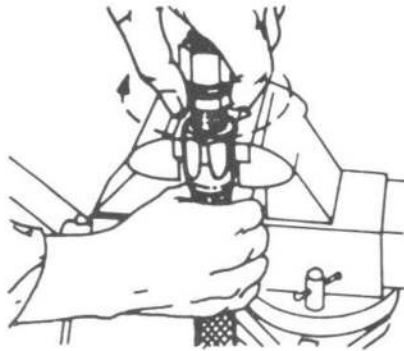

Fig.14 Engaging the nipple/socket threads
(5) Carefully insert the tapered end of the nipple assembly through the socket and into the bore of the hose. Engage the nipple and socket threads while holding the hose in position by hand (fig. 14).